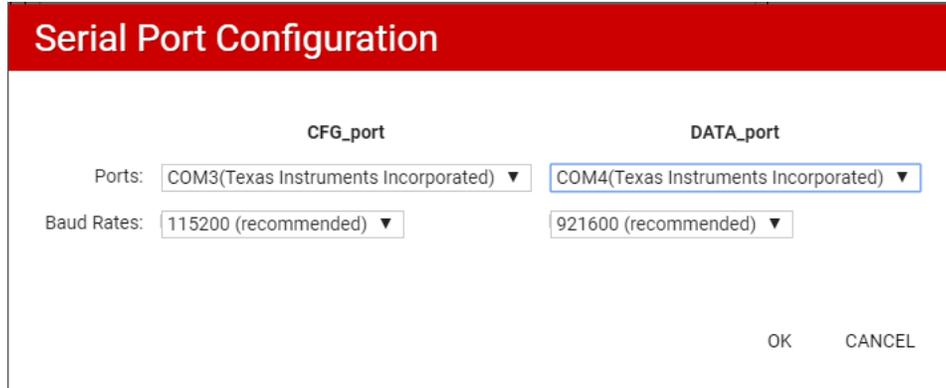

Figure 3. Serial Port Configuration in App
2. In the browser app, navigate to Menu → Options → Serial Port and set up the COM ports in the pop-up window as follows (see Figure 3).